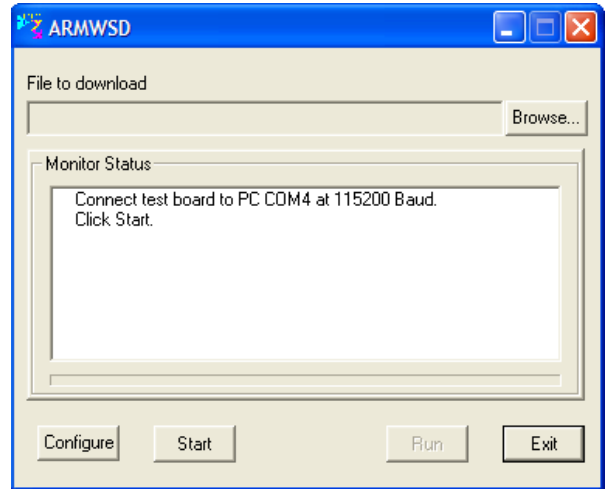
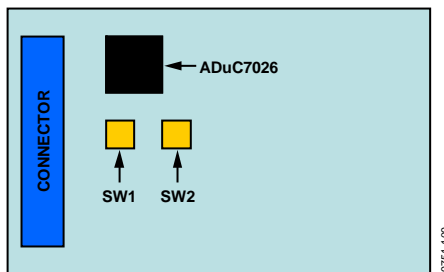

Figure 13. ISEB ARMWSD Firmware Downloader
Figure 15. ISEB Switch Locations for Flashing the Microcontroller
2. Run the **ARMWSD.exe** program located in the **/Firmware Utility/** folder on the CD. This is the GUI for loading firmware onto the microcontroller; a screenshot is shown in Figure 13.
When the COM port is selected, click **OK** to accept the changes and go back to the **ARMWSD** window (shown in Figure 13).
1. Click **Start** in the **ARMWSD** box (see Figure 13) to initiate the flashing process. Press the two buttons (shown in Figure 15) on the ISEB in the following order to flash the firmware:
2. If the downloading process fails, which is indicated in the **Monitor Status** box (see Figure 13), attempt the download again by clicking **Start** and then pressing the switch combination in Step 1. It may take a few attempts to reprogram the board successfully. Ensure that the cables and boards are stationary during programming to prevent loose connections.
3. After the download has completed successfully, click **Run** (as shown in Figure 13) to reset the ISEB and to begin running the new firmware. When this step is complete, the board is updated correctly.